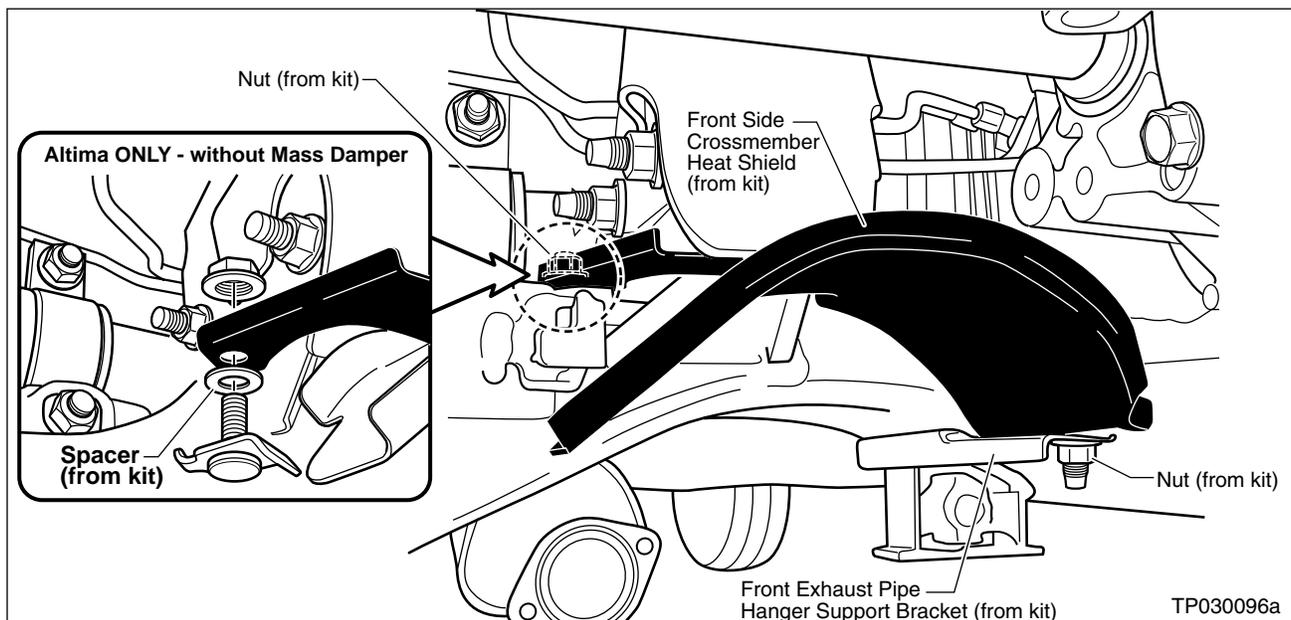

Figure E20
26. Install the new Front-Side Crossmember Heat Shield to the Mass Damper and to the newly installed Hanger Support Bracket with two nuts (P/N 08918-3401A-KT). See Figure E20.
**NOTE:** Some Altima vehicles may NOT be equipped with a Mass Damper. If this is the case, add the new Spacer (supplied in the kit) between the heat shield and the crossmember mount (see Figure E20).